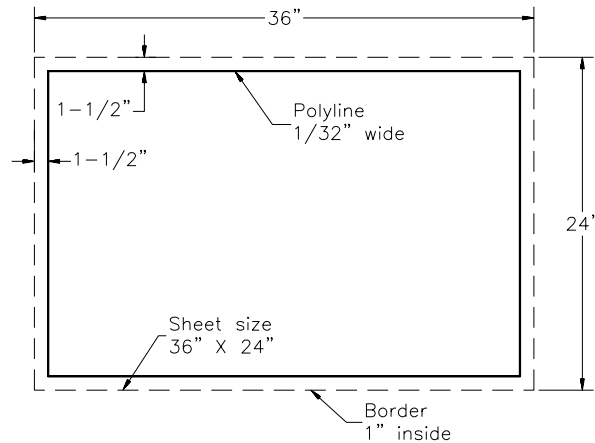

Figure 13-23 Drawing for Exercise 5
Create a template drawing shown in Figure 13-23 with the following specifications and save it with the name *protoe5.dwt*:
- Plotted sheet size 24" x 18" (Figure 13-23)